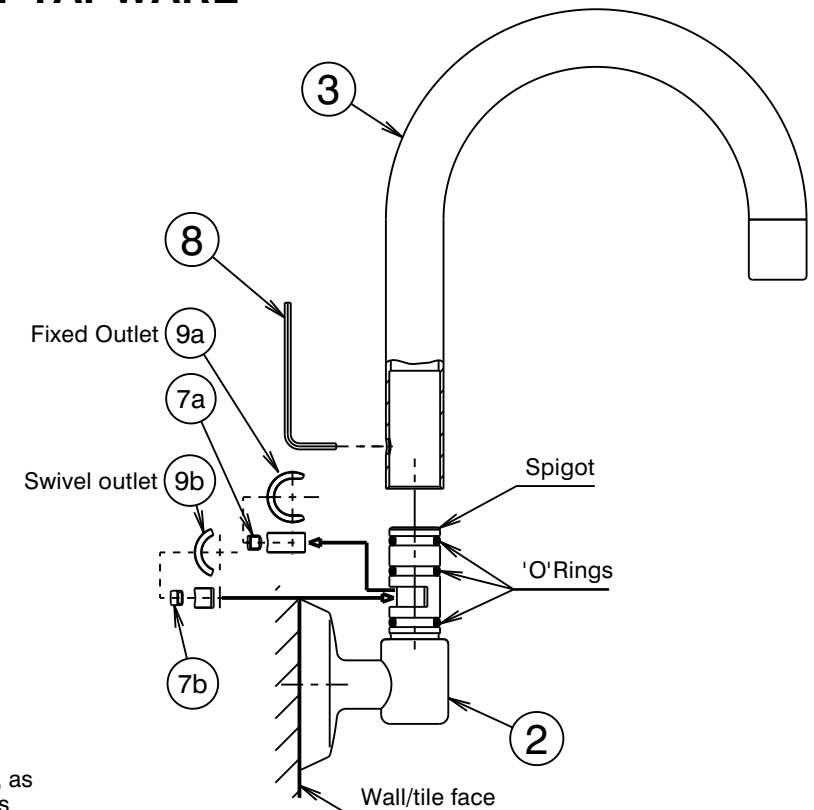

Fig. 2
- * If the outlet (3) is required to swivel, it is recommended that it is converted prior to installation (see Fig.2).
Converting the outlet from fixed to swivel (Fig.2)